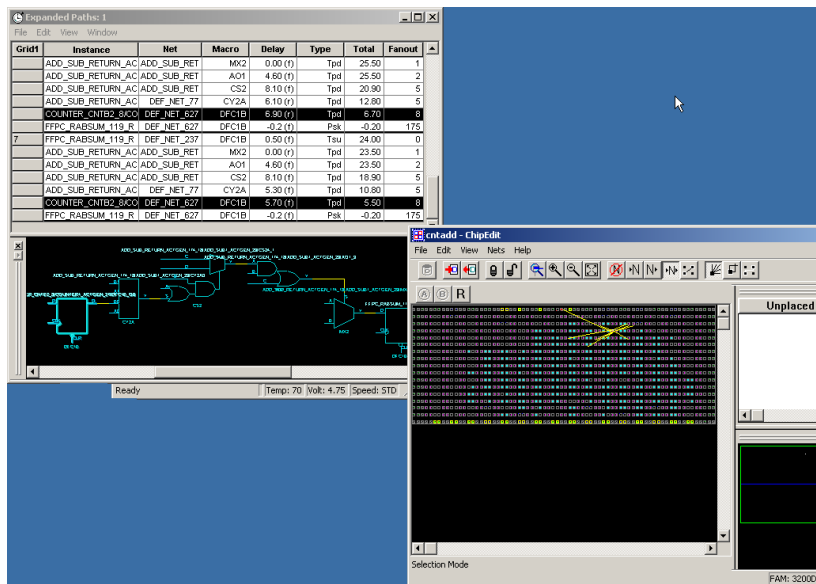

Figure 2-13. Timer and ChipEdit
6. Select a module or net in the Expanded Paths dialog box. The module or net is shown in ChipEdit, as shown in Figure 2-13.